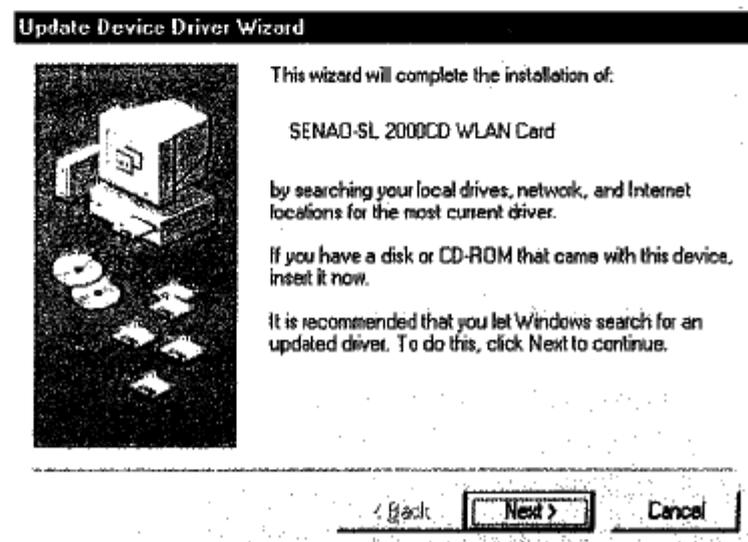

Figure 3-1
3. Windows will automatically detect your PC Card. Once Windows has identified the PC Card, it then prompts "Update Device Driver Wizard" as shown in Figure 3-1.